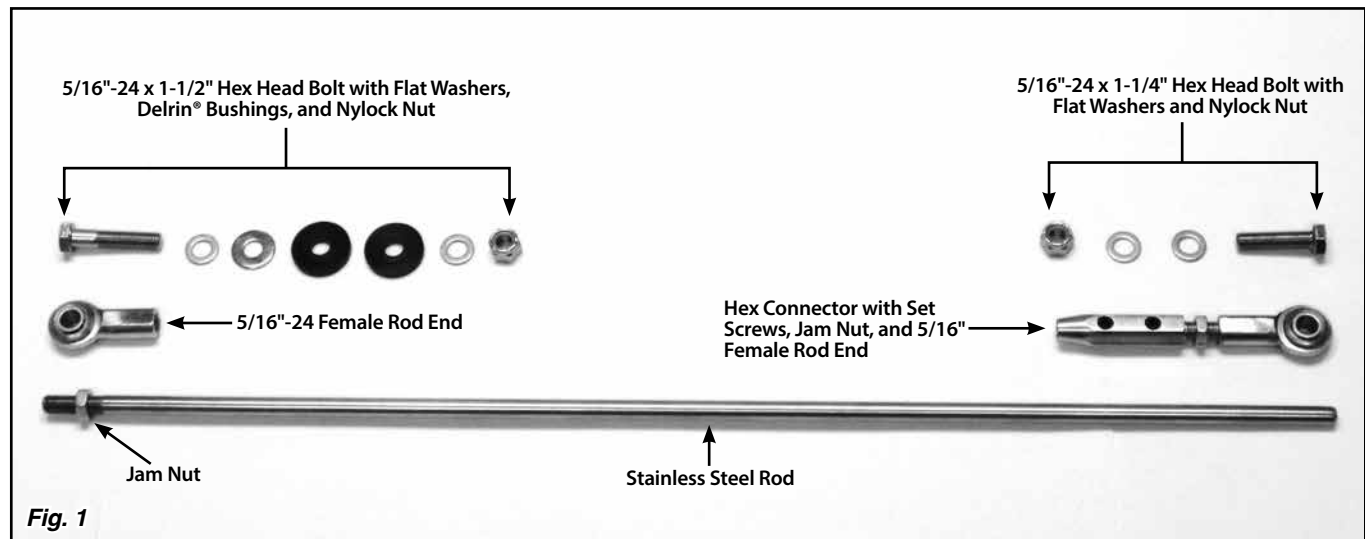
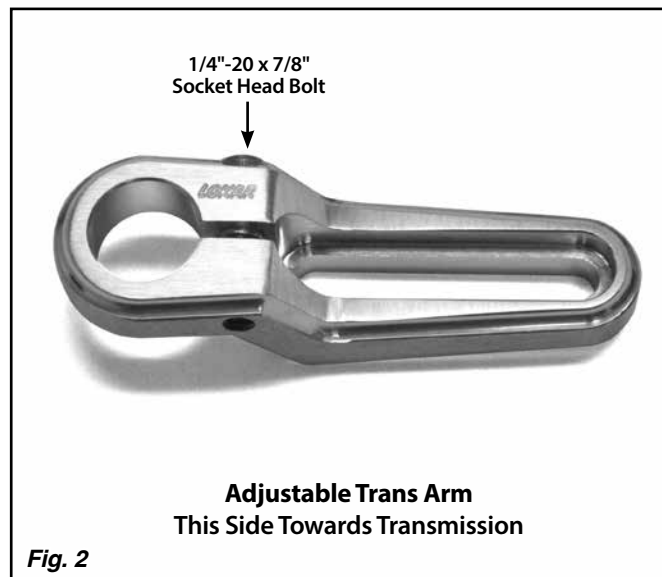
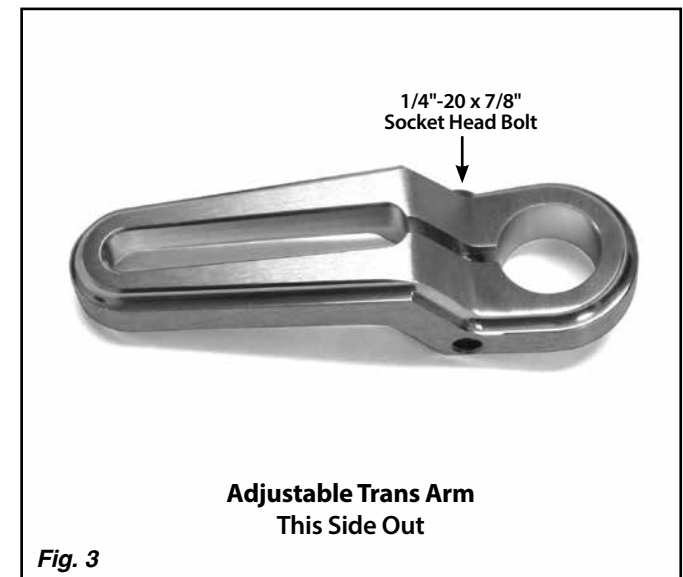

Fig. 1
Fig. 2
Fig. 3
Refer to Fig. 1 and Fig. 2 for the part names.
Step 2: Install the adjustable trans arm onto the trans selector shaft at approximately the 8:00 position as a starting point, with the "LOKAR" logo facing the transmission. See Fig. 2 and Fig. 3. The positioning varies per application, and it may be necessary to reposition the adjustable trans arm later in order to be able to get the transmission into all gear positions. Tighten the 1/4"-20 x 7/8" socket head bolt to clamp the adjustable trans arm to the trans selector shaft.